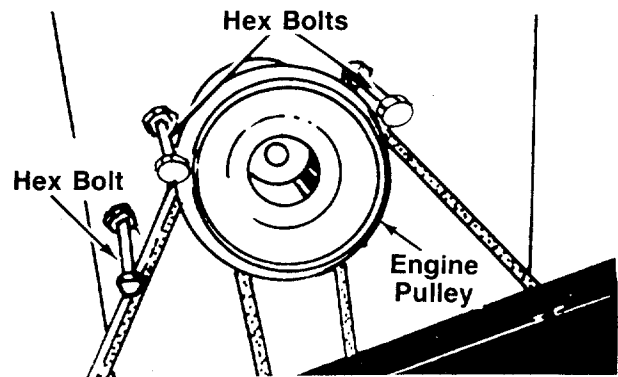

FIGURE 20.
Figures 20 and 23 through 25 are shown with the unit tipped up for clarity. It is not necessary to tip the unit to remove the belts.
2. Remove the three hex bolts (belt keepers) from the engine pulley belt guard. See figure 20.
Make certain hex bolts are reassembled as shown in figure 20.
- Remove the hex bolts (belt keepers) from the engine pulley belt guard. Refer to figure 20.